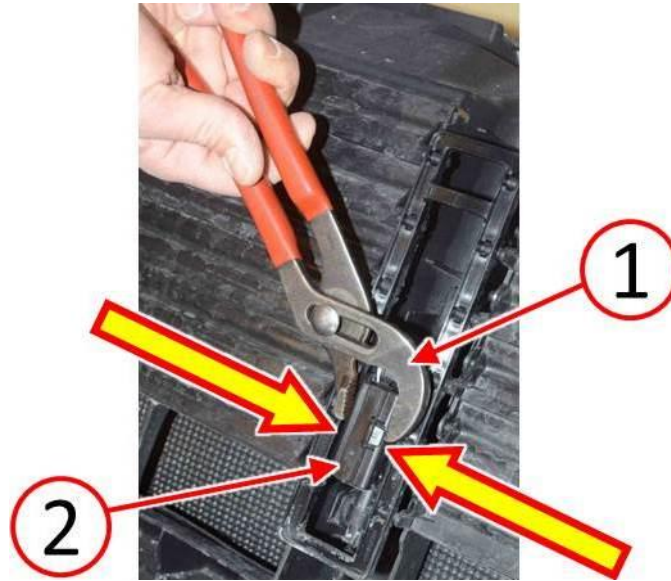

Fig. 5 Engage Actuator Motor Case Housing With Adjustable Pliers
- Engage the actuator motor case housing retainer by using adjustable pliers to close the housing halves (Fig. 5).